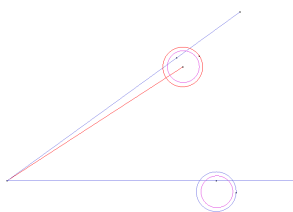

Figure 10. The two lines selected
- 3 . Select the line resulting from the 33-degree rotation executed in section Rotating and copying the auxiliary lines -pag. 26- (see Figure 10).